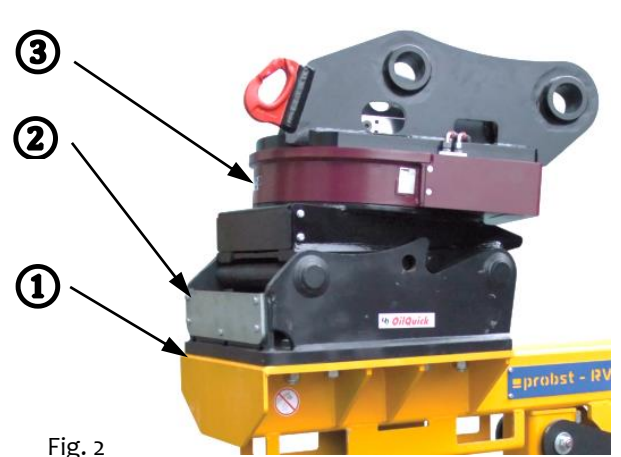

Fig. 2
- The unloaded device is lifted approx. 20 cm and both supporting feet must be swivelled inwards (Fig. 2).